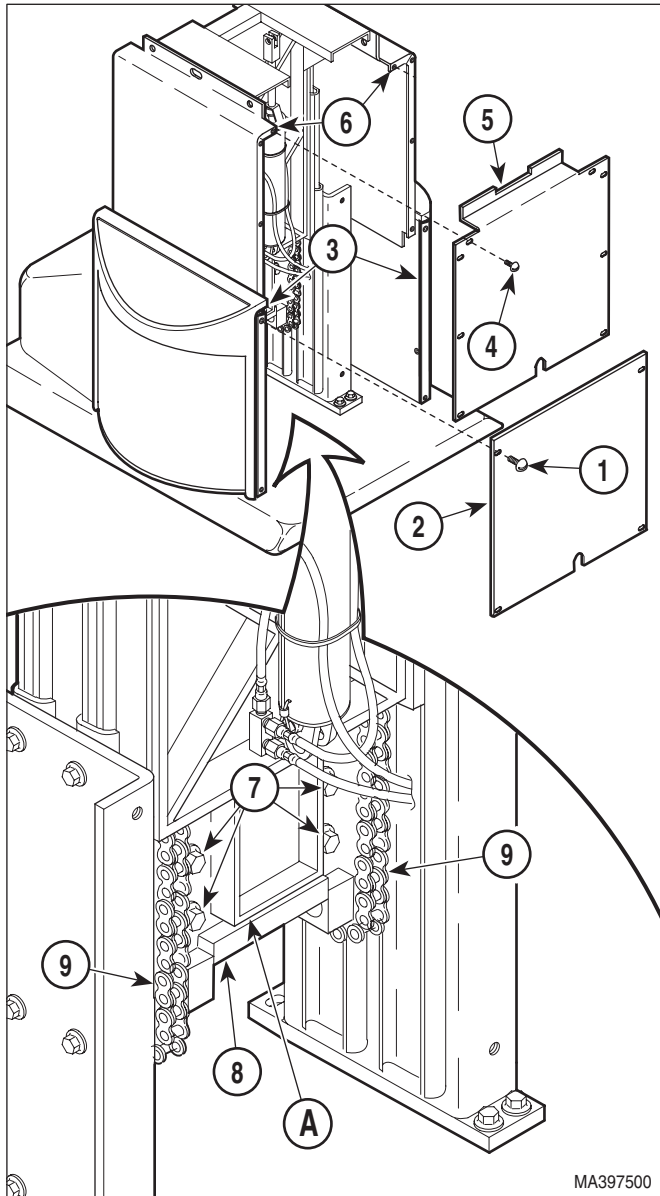

Figure 4-27. Chain Assembly Adjustment
- (1) Raise TABLE UP function all the way up.
- (2) Unplug table power cord from outlet.
- (3) Remove four screws (1, Figure 4-27) and front outer shroud (2) from left and right hand outer shrouds (3).